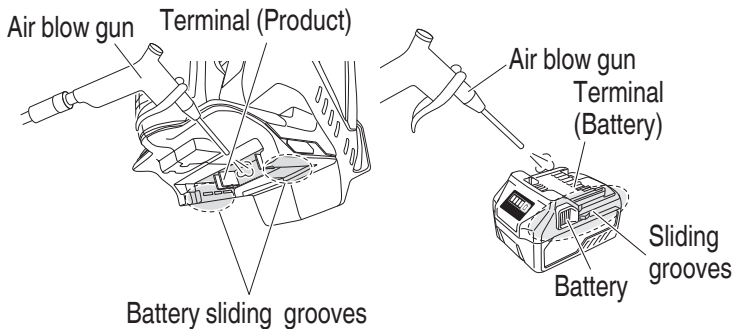

Fig. 48
9. **Cleaning the battery installation compartment and the battery (Fig. 48)**